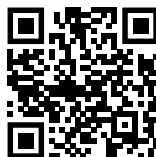

Fig. 151
- Hapni Liebherr SmartMonitoring Dashboard. (shihni Fig. 151)